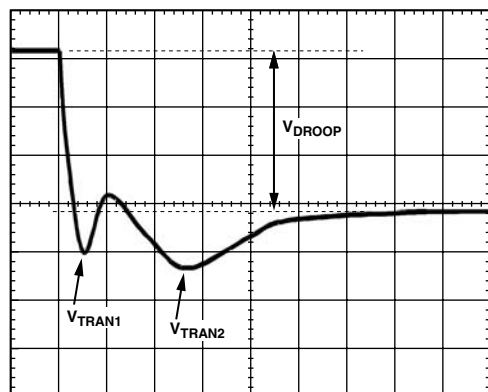
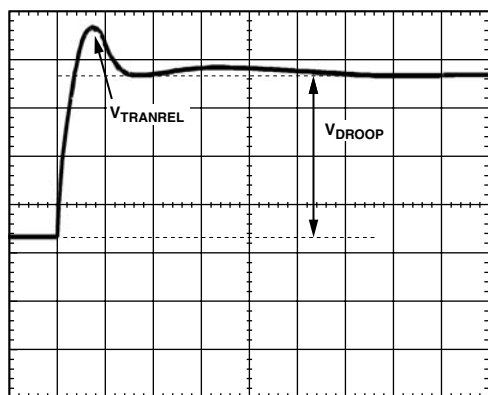

Figure 4. Transient Setting Waveform
Figure 5. Transient Setting Waveform
19. With dynamic load still set at maximum step size, expand scope time scale to see 2 $\mu\text{s}/\text{div}$ to 5 $\mu\text{s}/\text{div}$. The waveform may have two overshoots and one minor undershoot (see Figure 5). Here, V_{DROOP} is the final desired static value.
21. For load release (see Figure 5), if V_{TRANREL} is larger than V_{TRAN1} (refer to Figure 4), there is not enough output capacitance. Either more capacitance is needed or it is necessary to make the inductor values smaller (if inductors are changed, it is necessary to start design over using the spreadsheet and this tuning guide).